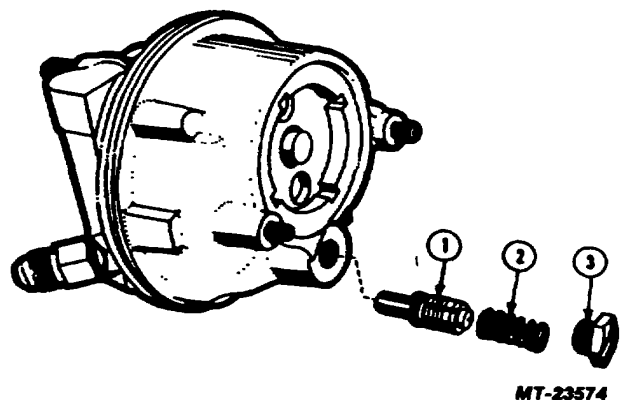

Fig. 17 Valve Components
- 11. Remove flow control valve cap and flow control valve components, Figure 17.